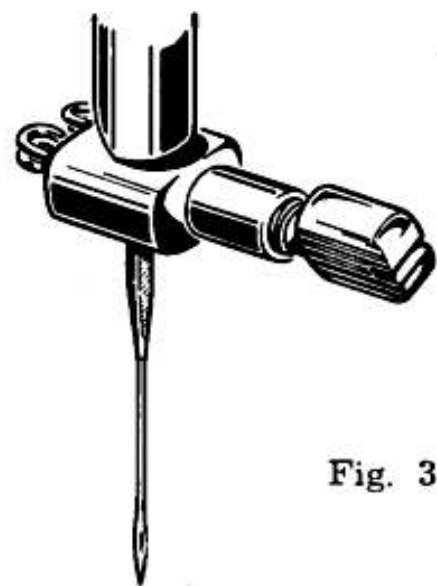

Fig. 3
- Loosen screw (Fig. 3) and insert the needle into the groove pushing it up as far as it will go.